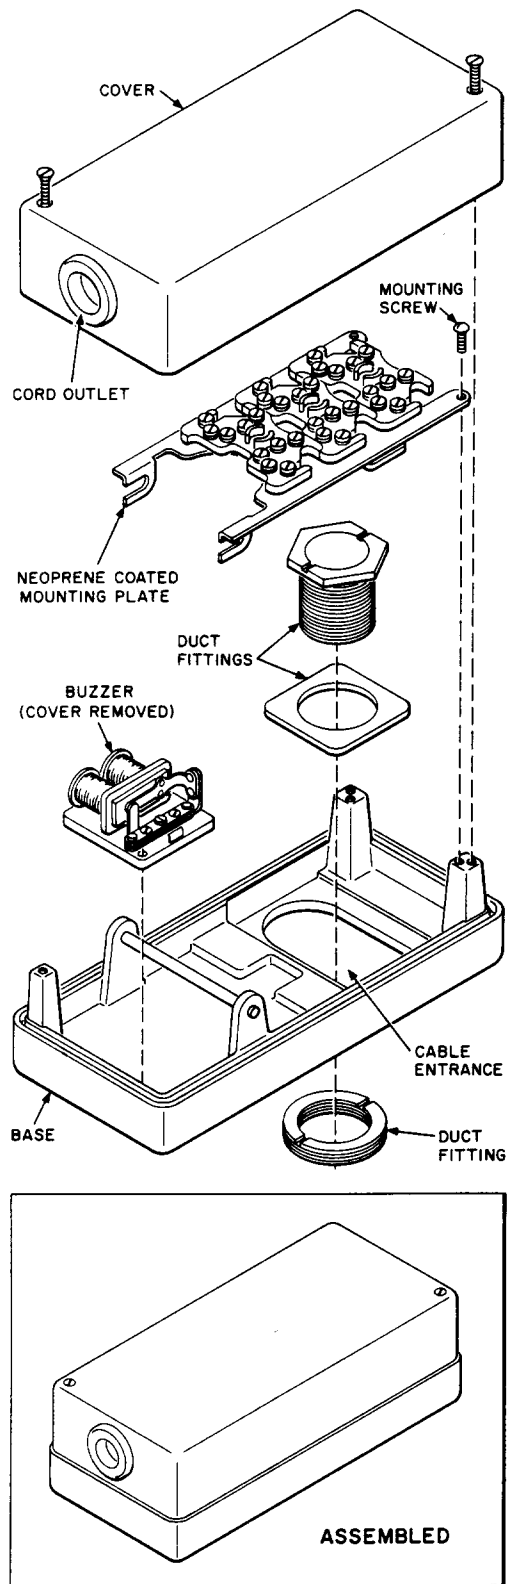

Fig. 5—Nepcoduct 7906-LC Outlet
**5.06** The Nepcoduct 7906-LC outlet (Fig. 5) consists of a base, cover, and mounting plate and is similar to the 7906-LC4 except longer to provide mounting space for six 44-type connecting blocks and a 7-type or equivalent buzzer.
5.10 The Walker 506AL outlet is similar in appearance to the Nepcoduct 7906-LC in Fig. 5 and provides space for mounting six 44-type connecting blocks and a 7-type or equivalent buzzer.
**5.15** The General Electric SP403 outlet is similar to the Npecoduct 7906-LC outlet in Fig. 5 and consists of a base, hinged mounting plate, and housing. It will accommodate six 44-type connecting blocks and a buzzer or up to ten 44-type connecting blocks without the buzzer. Grommets are provided on both sides to permit bi-directional station mounting cord entrance if desired.